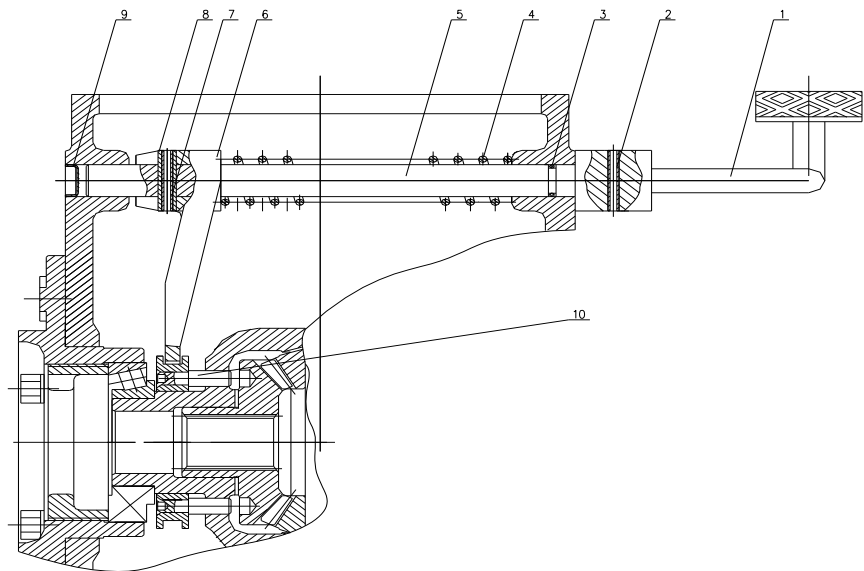

Figure 5-8 Operating Device of Differential Lock
As showed by Fig. 5-8: loosen the lock nut (1), and adjust the
The operation device of differential lock is located at the right side of the tractor(Figure 5-8) and is composed of differential lock pedal, shift shaft, shift fork, return spring, differential lock and so on.